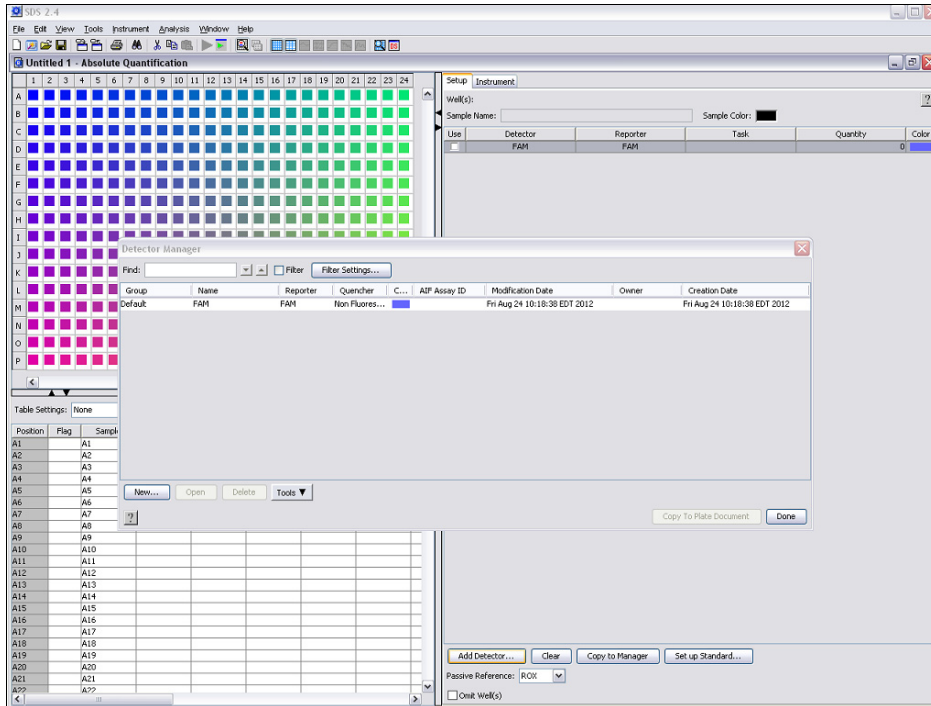

Figure 1. Experimental properties.
2. Select “Assay: Standard Curve (AQ)”, “Container: 384-well Clear Plate”, and “Template: Blank Template”. The field for “Barcode” is optional. Click “OK”.
4. In the “Detector Manager” window, select “FAM” for the reporter dye, click the “Copy To Plate Document” button, and click the “Done” button (Figure 1). Ensure that “ROX” is selected for “Passive Reference”.